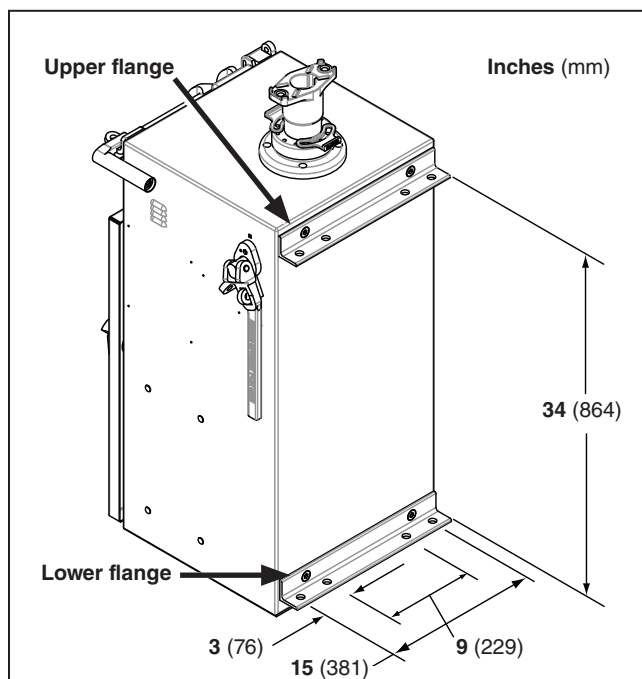

Figure 25. Attach the Mark VI CS-1A Switch Operator mounting flanges to the structure.
- STEP 3.** Align the upper and lower flanges on the rear of the operator with the user-furnished mounting surface provided on the structure. Fasten the operator to the structure using the  $\frac{5}{8}$ -inch holes provided on the mounting flanges, as shown in Figure 25. DO NOT remove the lifting slings from the operator until the operator is fully supported—using both flanges—by the structure.